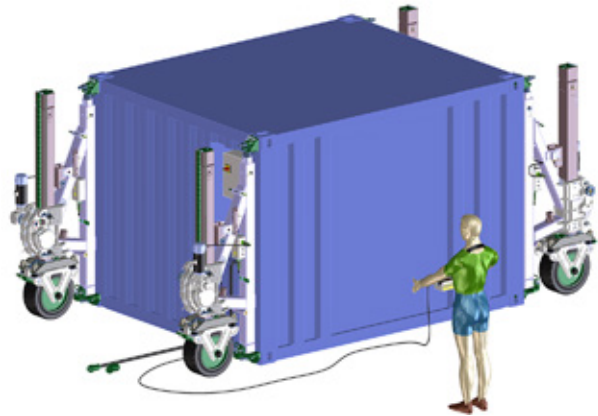

fig. 8-20
- Mount the relevant dispenser housing (2) to all four corner pillars (1).
- ⚠ Adhere to the correct alignment of the dispenser housings. (Figure 8-20; outgoing cable always outside)
- Open the cover (3) of the dispenser housing (2) and use the cylinder screw (4) that is located on the pivotable corner pillar (1) to screw the dispenser housing to the relevant pivotable corner pillar.